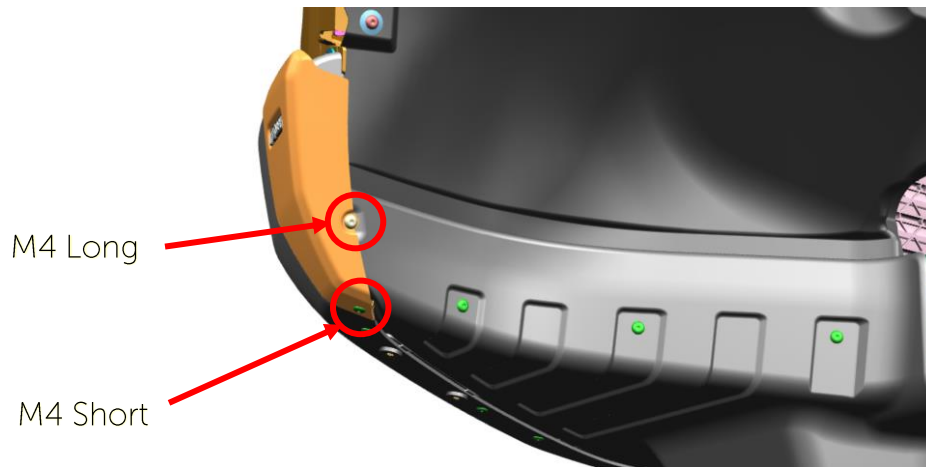

Figure 3 – Driver AEV Corner End Cap
- a. Using [1] M4 Bolt Long and [1] M4 Bolt Short (T15 Socket) 11611883/4 per side, install end cap through AEV Wheel Liner Closeout and bumper – Fig. 3